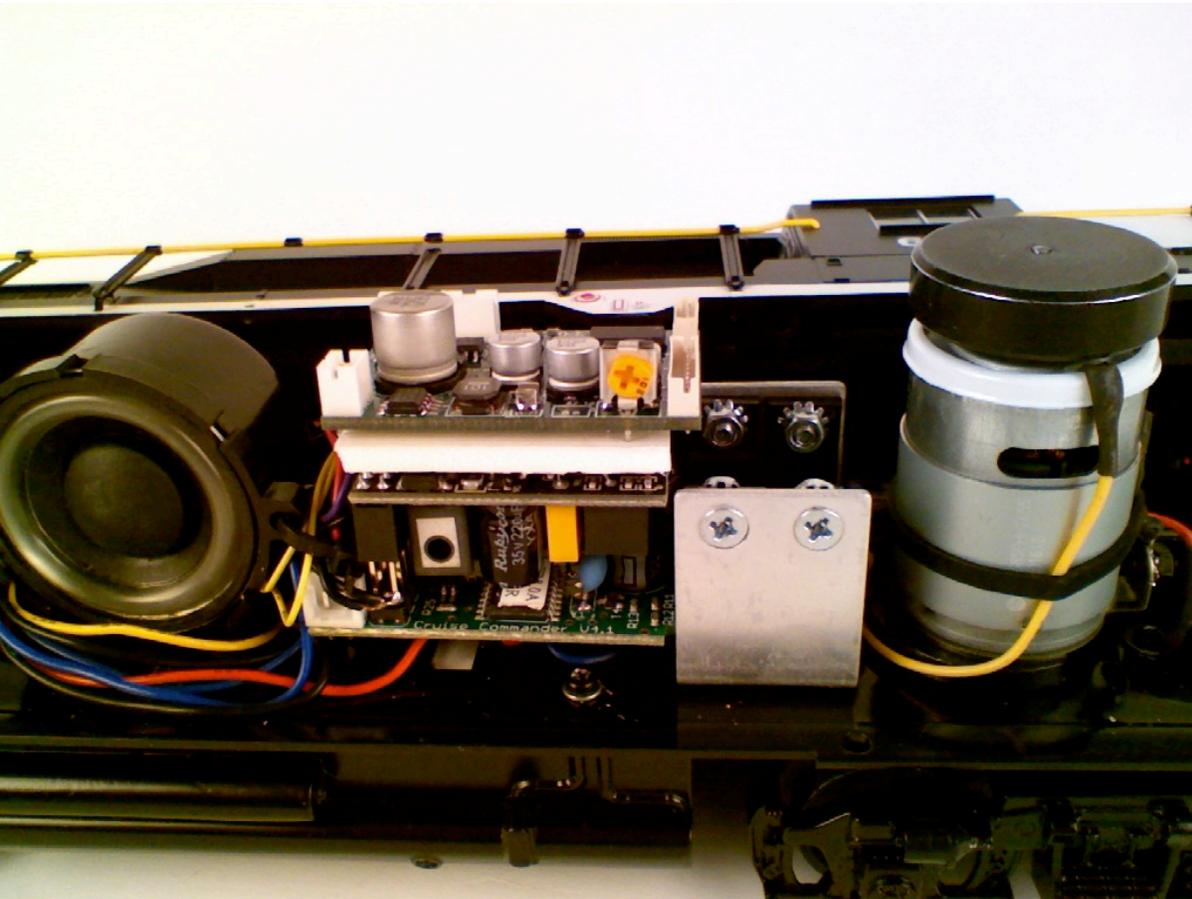

Figure 2 – RAILSOUNDS board attached with double-stick foam tape
2. Refer to Figure 2 and, when ready, use two layers of double stick tape 1 ½ inches by 1 inch to mount the RAILSOUNDS circuit board.